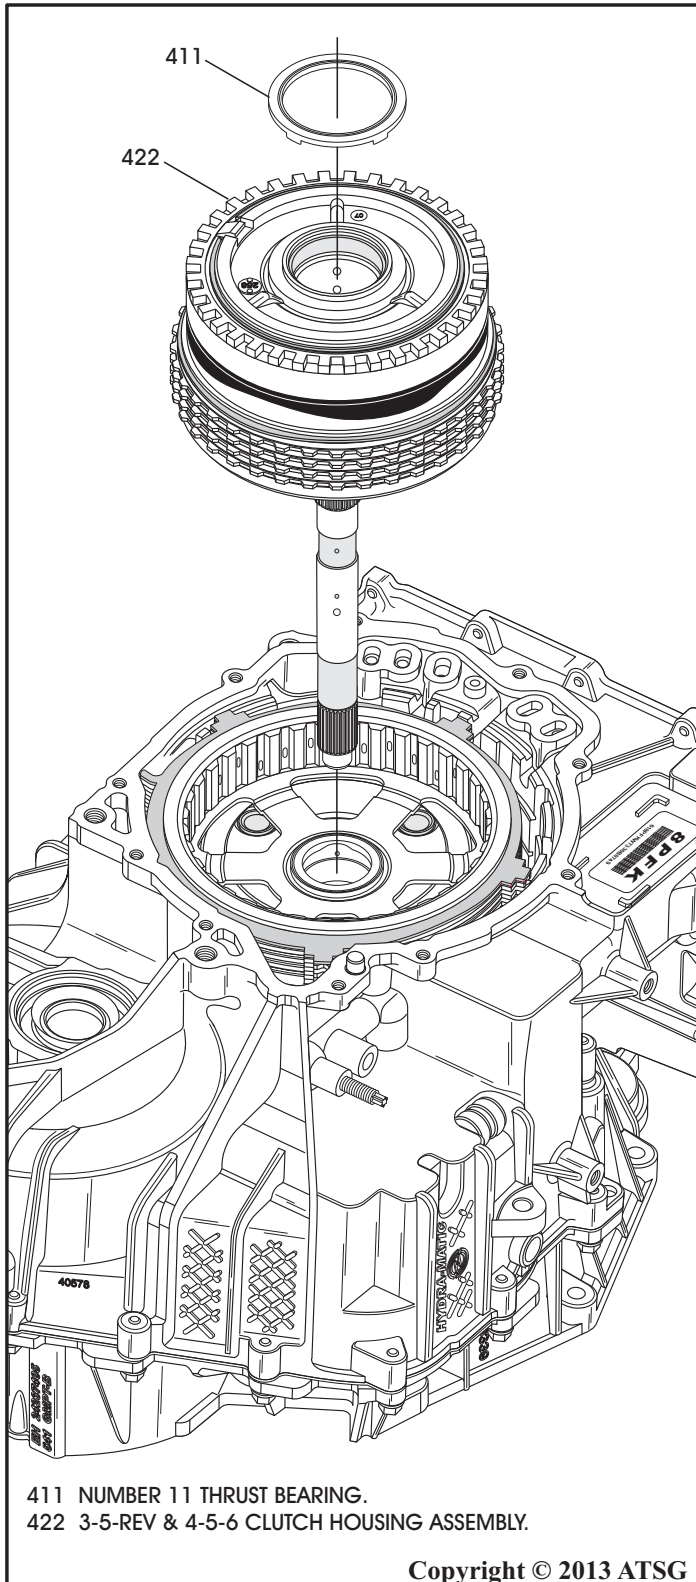

Figure 56
26. Remove the number 11 thrust bearing and the 3-5-R & 4-5-6 clutch housing assembly, as shown in Figure 56.